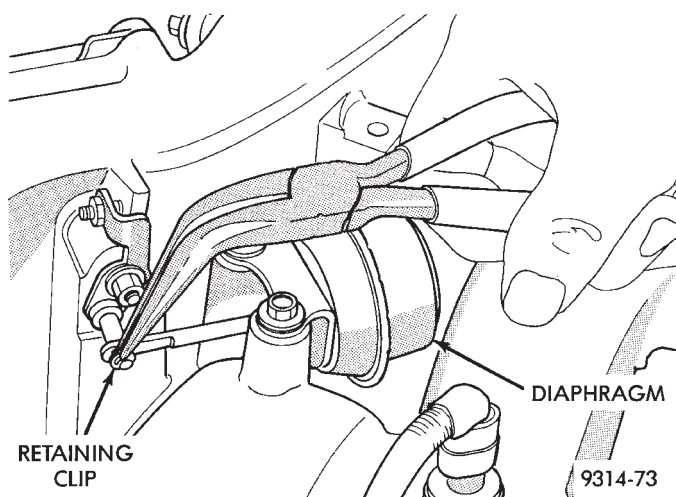

Fig. 57 Retaining Clip
- (3) Remove retaining clip from manifold tuning valve arm (Fig. 57)